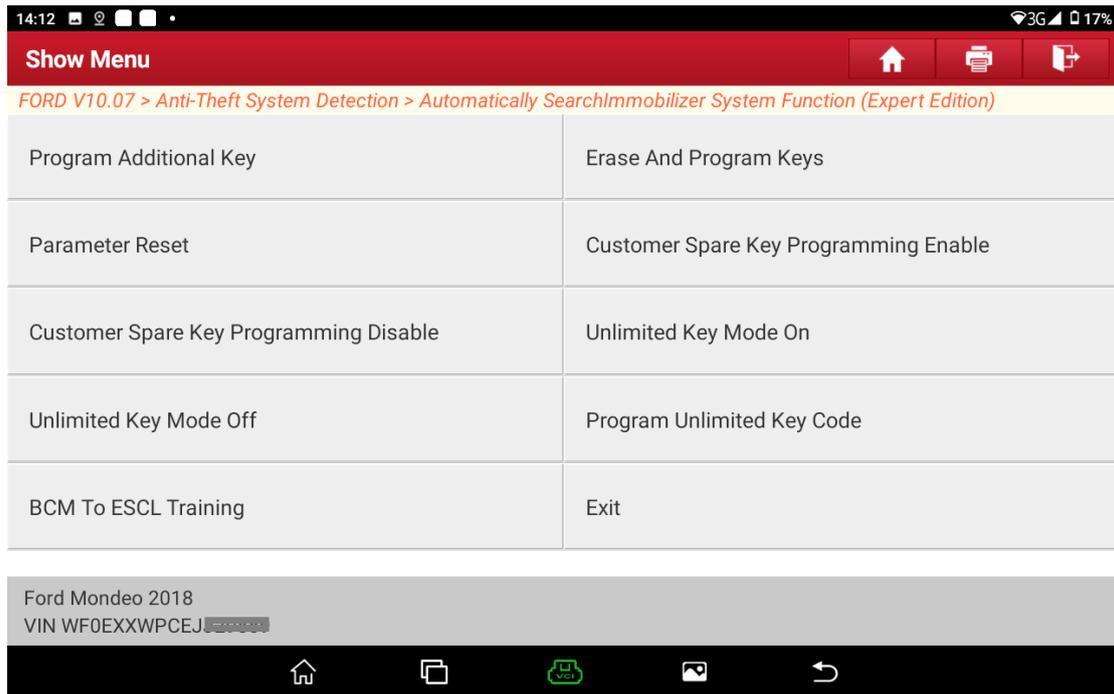

Figure A10
8. Choose [Program Addition Key]. See Figure A10.